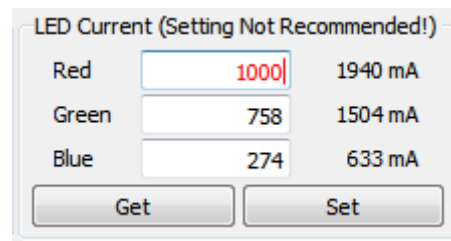

Figure 2-28. DLP LightCrafter GUI LED Current Setting Not Recommended
- If the value is above 758, the value turns red and a note is added to the LED current title to inform the user that this is not a recommended setting. See Figure 2-28.